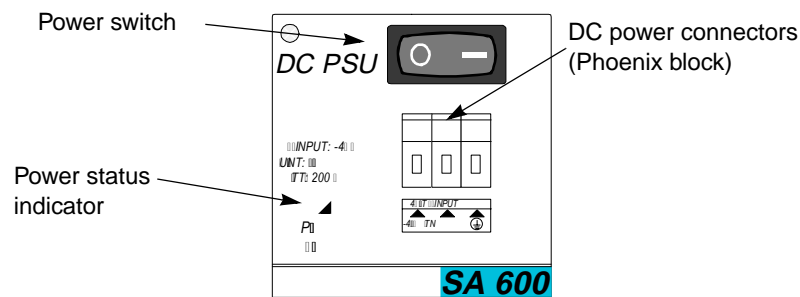

Figure 4-11. SA 600 DC Power Supply
1. Toggle the power supply's power switch off. See Figure 4-11 for switch location.
3. Loosen each screw in the Phoenix Block connector. See Figure 4-11.